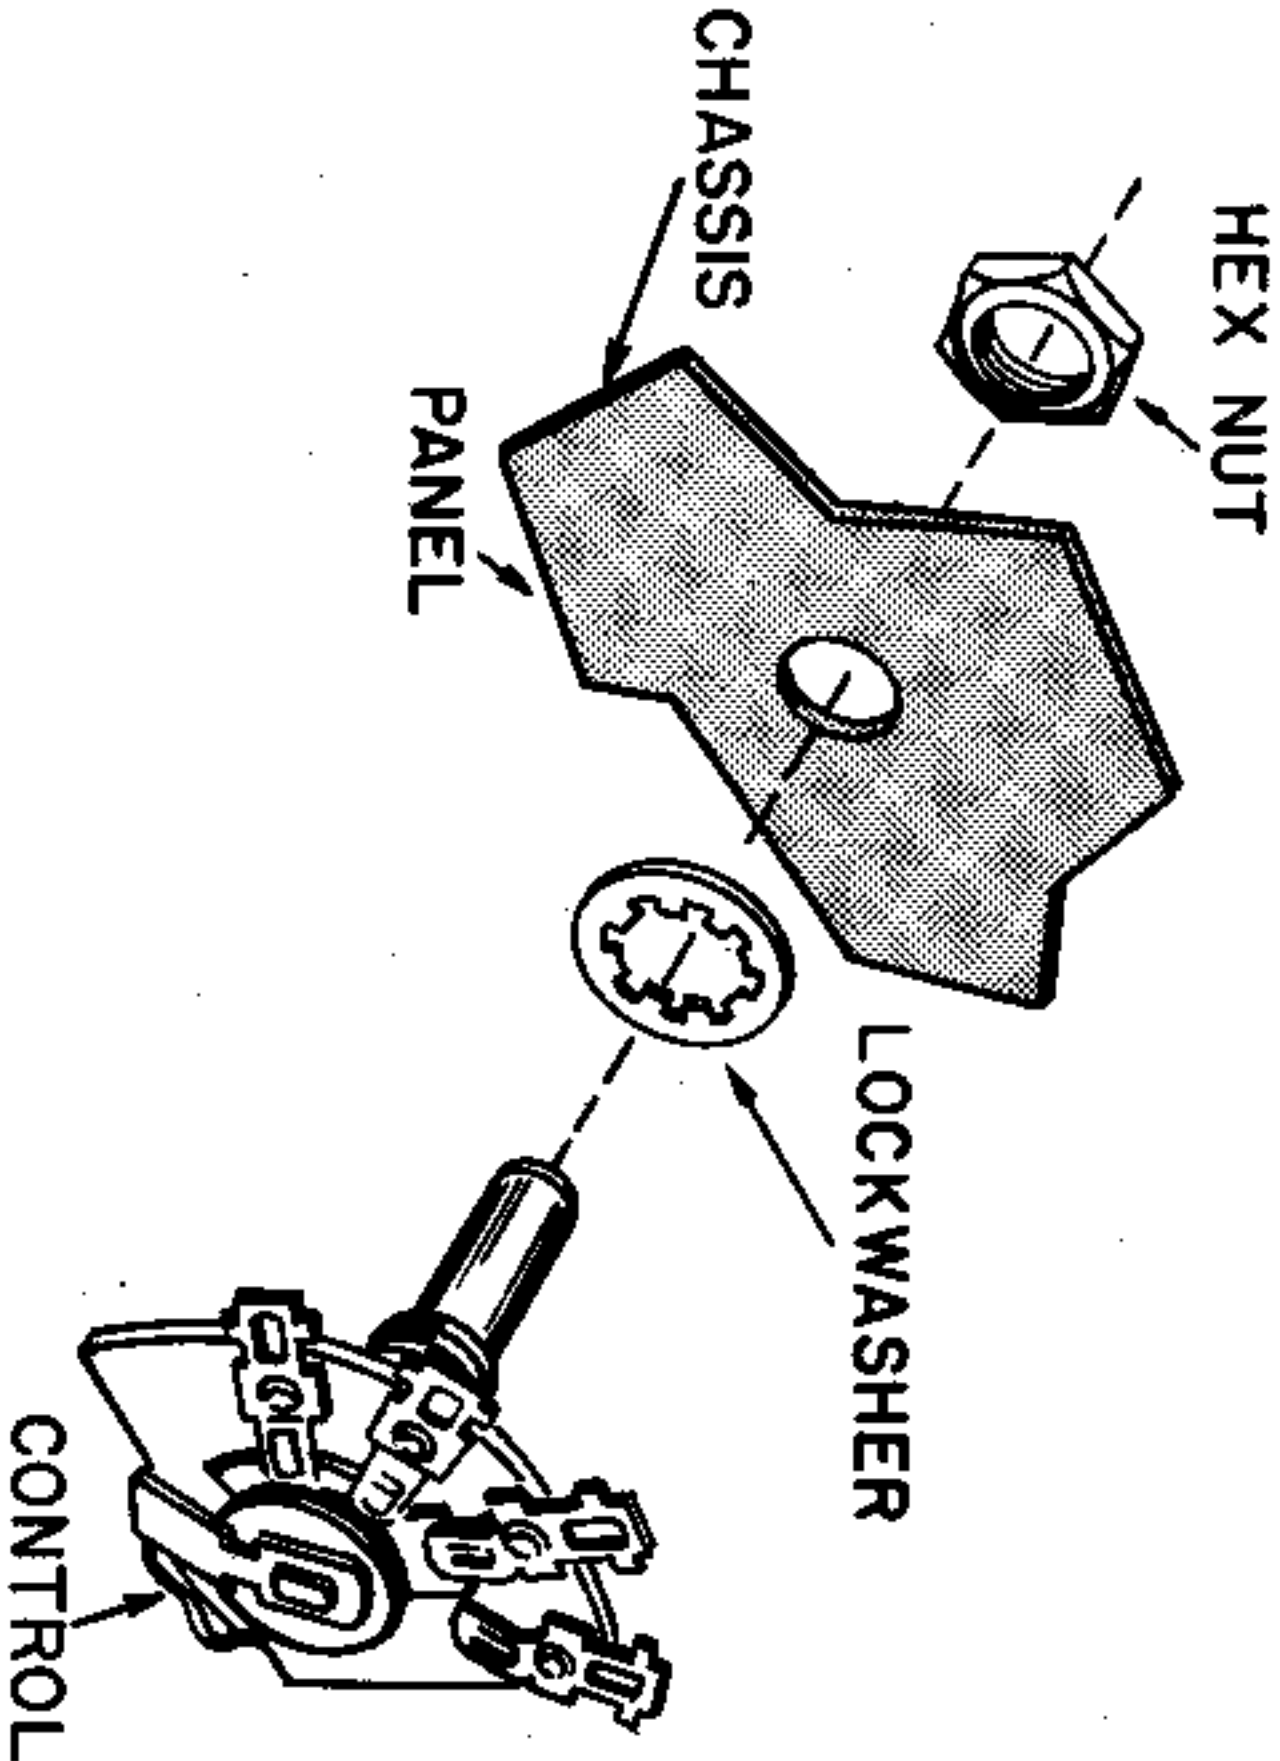

FIGURE 4. HOW TO MOUNT A CONTROL
From inside the chassis, mount S-3, the BFO-MVC-AVC-ANL switch on the front. Use one $\frac{3}{8}$ " lockwasher and one nut. See Figure 4. Position the terminals as shown in Figure 3.
- Permanently mount R-2 and S-4 inside the chassis. Use hardware as shown in Figure 4. Carefully route the 9-conductor cable as shown in Figure 11. To protect S-4, do not allow the cable to pull on the switch.